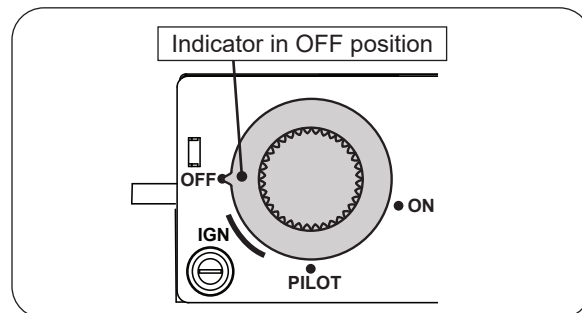

Fig. 26-2 Pilot shut down
2. Locate the valve on the side of the unit. Push in the ignition knob slightly and turn clockwise so the indicator points to **OFF** on the valve (see Fig. 26-2).
Push in the ignition knob slightly and turn clockwise to **OFF**. Do not force. See Fig. 26-2.